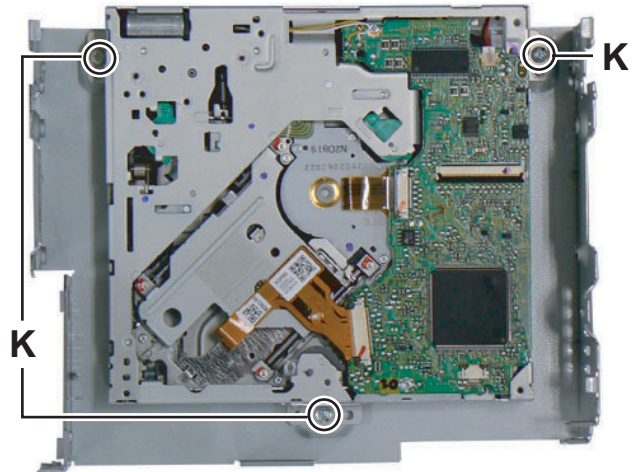

Fig.9
(5) Remove the three screws **K** attaching the DVD mechanism. (See Fig.9)